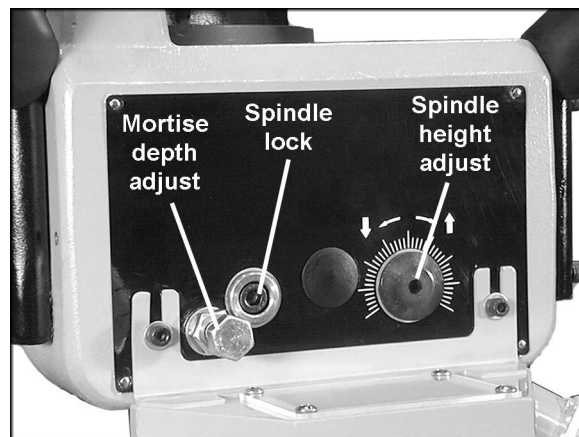

Figure 21
2. Loosen the spindle lock screw (Figure 21) by turning it counterclockwise with a 6mm hex wrench.
2. Loosen the hex nut on the mortise depth adjust bolt (Figure 21) by turning the hex nut counterclockwise with a 17mm wrench.